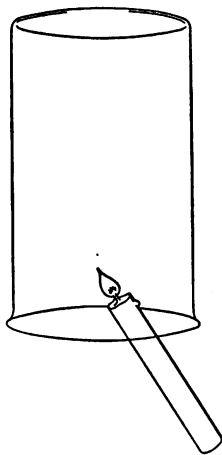

FIG. 13.
M. So that is your difficulty? You know that many liquids look like water that aren't water. In the same way there are many gases that look like air, but are something quite different. On that account in the earlier developments of chemistry there was great difficulty, till characteristics like that with lime-water taught people to distinguish between the different gases. But now we will try another experiment. I light a candle again, and hold a large empty glass over it (Fig. 13). What do you see?